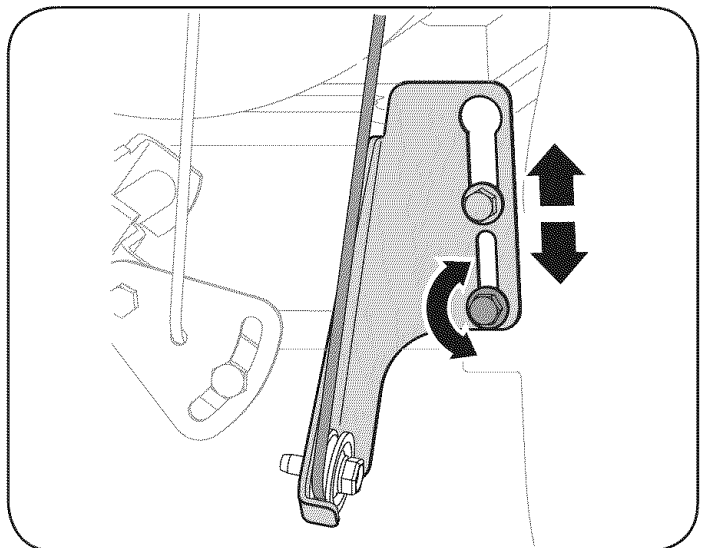

Figure 19
5. Loosen the lower hex nut on the drive cable bracket. See Figure 19.